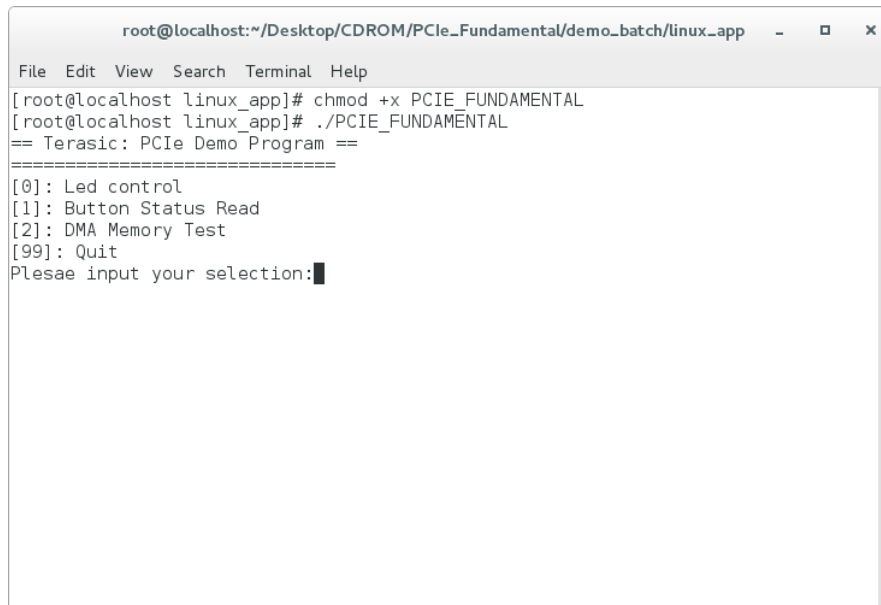

Figure 8-5 Screenshot of Program Menu
8. Go to linux_app folder, execute PCIE_FUNDAMENTAL. A menu will appear as shown in **Figure 8-5**.